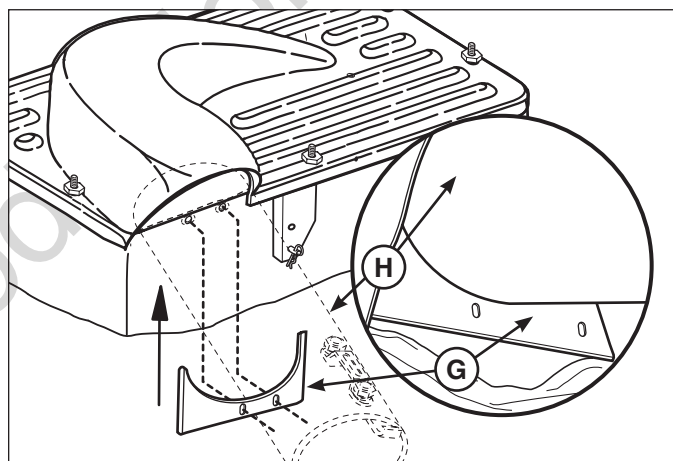

Figure 15
4. Place the debris shield (G, Figure 15) under the catcher tube (H) with the offset hole pattern towards the center of the rider as shown.